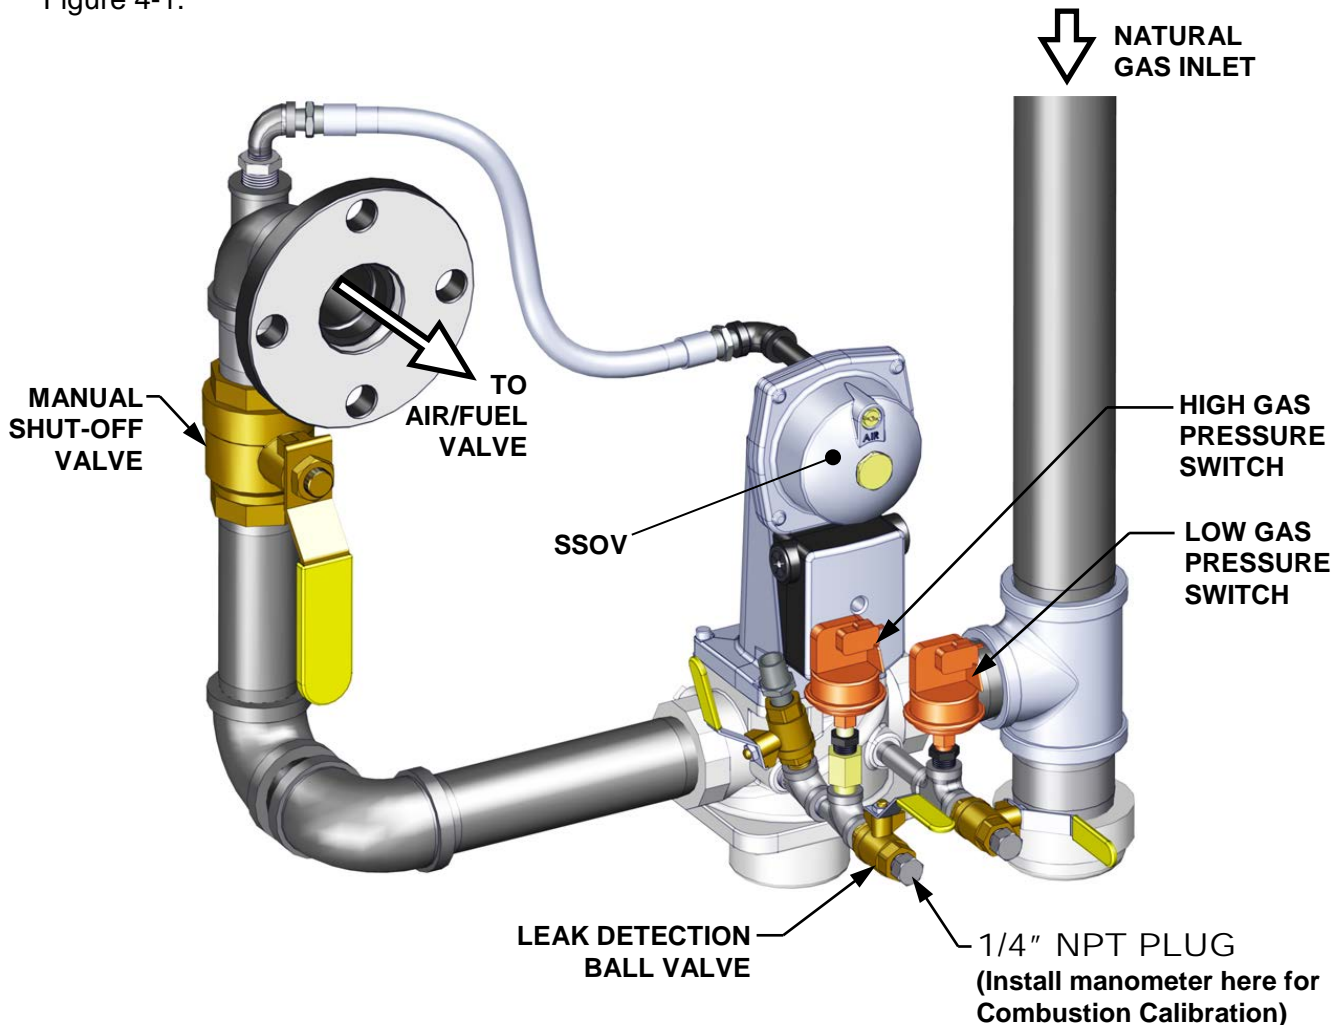

Figure 4-1: BMK 1500/2000: 1/4 Inch Gas Plug Location for Combustion Calibration
The gas supply manometer is installed at the upstream and/or downstream location shown in Figure 4-1.
3. To monitor the gas pressure on the downstream side of the SSOV during Combustion Calibration (section 4.3), remove the 1/4" NPT plug from the leak detection ball valve on the downstream side of the SSOV as shown in Figure 4-1.